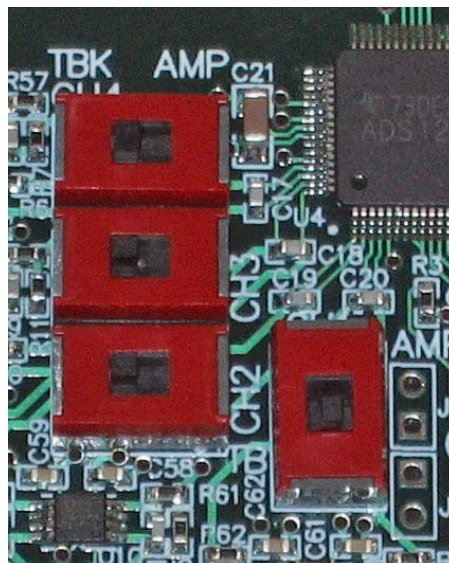

Figure 7. Amplifier Selection Switches
Each input signal can be selected to connect directly to the analog inputs of the ADS1274 or they can use the OPA1632 buffers that are provided. Switches S2-5 can be switched away from the ADS1274 to select the Terminal Block (TBK) or towards the ADS1274 to select the Amplifier (AMP) for the analog inputs 1 through 4 as shown in Figure 7.
Step 4. Set the jumpers and switches on the ADS1274EVM as shown in Figure 7 (note that these settings are the factory-configured settings for the EVM). Note that the default configuration for the EVM is to use external $\pm 10V$ supplies for the input amplifiers.